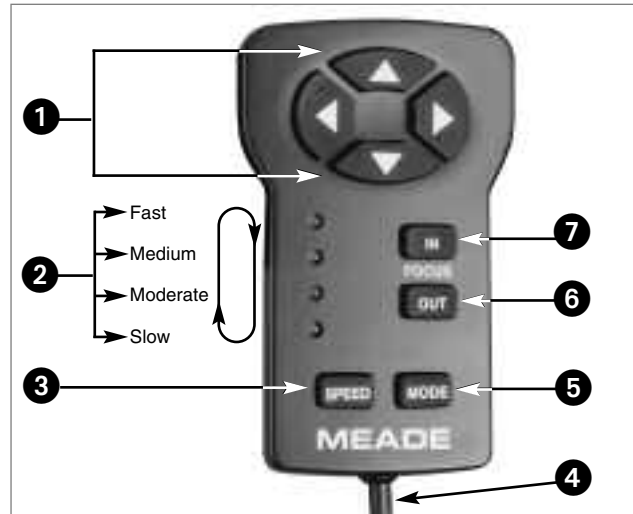

Fig. 49: Electronic Controller. (1) Arrow Keys; (2) Indicator Lights; (3) SPEED Key; (4) Coil Cord; (5) MODE Key; (6) OUT Key; (7) IN Key.
Some LXD75 models (designated with an "EC," for example, AR-5EC) come equipped with an Electronic Controller (EC) handbox, rather than the Autostar Handbox. The Electronic Controller provides you with the means to control the telescope motors from a compact handbox. The Electronic Controller (Fig. 49) has soft-touch keys designed to have a positive feel, even through gloves.
The following numbers refer to Fig. 49 above.
- 3 SPEED Key:** Press **SPEED** to change the speed at which the telescope slews to an object. Each press of the **SPEED** key changes the slew speed to the next slower setting. If the controller is already on the slowest slew speed (light 4), pressing **SPEED** cycles back to the highest speed (light 1). Slew speeds are signified by the indicator lights (2, Fig. 49).
4. Plug in the Electronic Controller coil cord (4, Fig. 49) to the HBX port (24A, Fig. 1) on the Computer Control panel.
8. Use the four Arrow keys (1, Fig. 49) to slew the telescope to the desired object. To change the slew speed, press SPEED.
For objects, like the Moon or a comet, that move at slightly different rates, the Electronic Controller Arrow keys (1, Fig. 49) are sufficient to move the telescope slightly as the object very slowly moves off-center through the eyepiece field.
1. Press and hold MODE (5, Fig. 49) until the Mode function is active (*i.e.*, lights 1 and 2 are on steady; lights 3 and 4 signify whatever tracking mode was last chosen).
2. Press SPEED (3, Fig. 49) until lights 1, 2, and 3 are on steady with light 4 blinking. The telescope is now in the Northern Hemisphere polar mode.
3. Press IN (7, Fig. 49) and light 4 comes on steady. The tracking rate is now 0.5% *faster* than sidereal. If the object you're tracking is moving faster than the sidereal rate, look through the eyepiece and press IN. Each time you press IN, the tracking rate increases by 0.5%. **Note that when the Mode function is active, the tracking motor stops. To restart the tracking motor, press MODE again.** Experiment with this function to get the right speed: Press IN to set the tracking rate. Then press MODE and look through the eyepiece. Continue pressing IN and MODE until the object remains centered with little or no drifting in the eyepiece.
4. To use a rate slower than sidereal, press OUT (6, Fig. 49) until light 4 blinks again (sidereal rate). Press OUT again and light 4 goes out, signifying a tracking rate 0.5% *slower* than sidereal. **Note that when the Mode function is active, the tracking motor stops. To restart the tracking motor, press MODE again.** Experiment with this function to get the right speed: Press OUT to set the tracking rate. Then press MODE and look through the eyepiece. Continue pressing OUT and MODE until the object remains centered with little or no drifting in the eyepiece.
6. Use the four Arrow keys (1, Fig. 49) to slew the telescope to the desired object. To change the slew speed, press SPEED.
1. Press and hold MODE (5, Fig. 49) until the Mode function is active (*i.e.*, lights 1 and 2 are on steady; lights 3 and 4 signify the tracking mode last chosen).
2. Press SPEED (3, Fig. 49) until lights 1 and 2 are on steady, light 3 is off, and Light 4 is blinking.
3. Press IN (7, Fig. 49) and light 4 comes on steady. The tracking rate is now 0.5% *faster* than sidereal. **Note that when the Mode function is active, the tracking motor stops. To restart the tracking motor, press MODE again.** Experiment with this function to get the right speed: Press IN to set the tracking rate. Then press MODE and look through the eyepiece. Continue pressing IN and MODE until the object remains centered with little or no drifting in the eyepiece.
- To use a rate slower than sidereal, press OUT (6, Fig. 49) until light 4 blinks again (sidereal rate). Press OUT key and light 4 goes out, signifying a tracking rate 0.5% slower than sidereal. **Note that when the Mode function is active, the tracking motor stops. To restart the tracking motor, press MODE again.** Experiment with this function to get the right speed: Press OUT to set the tracking rate. Then press MODE and look through the eyepiece. Continue pressing OUT and MODE until the object remains centered with little or no drifting in the eyepiece.
- Use the four Arrow keys (1, Fig. 49) to slew the telescope to the desired object. To change the slew speed, press SPEED.